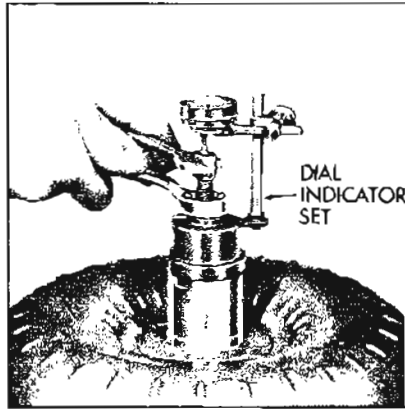

Figure 5-368
- c. Install dial indicator set at 0 as shown in Figure 5-368.
clearance is .050" or over and the oil has the appearance of having been mixed with aluminum paint, replace the converter. See Figure 5-368.